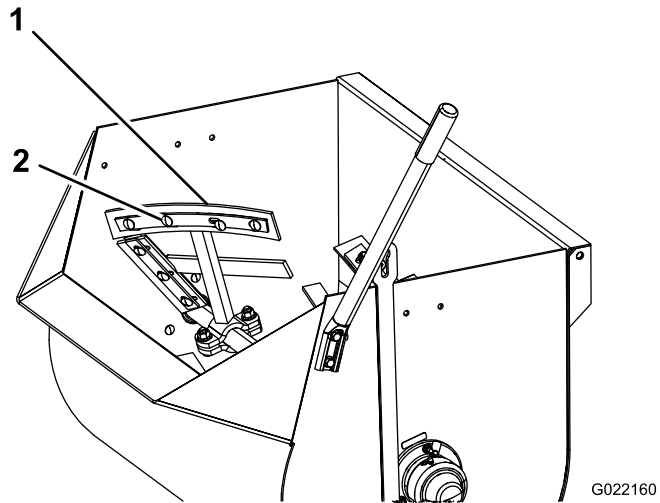
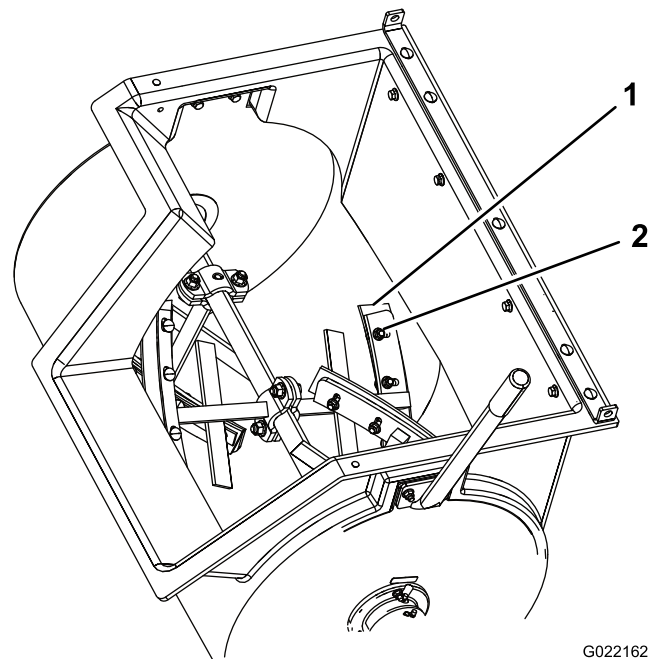
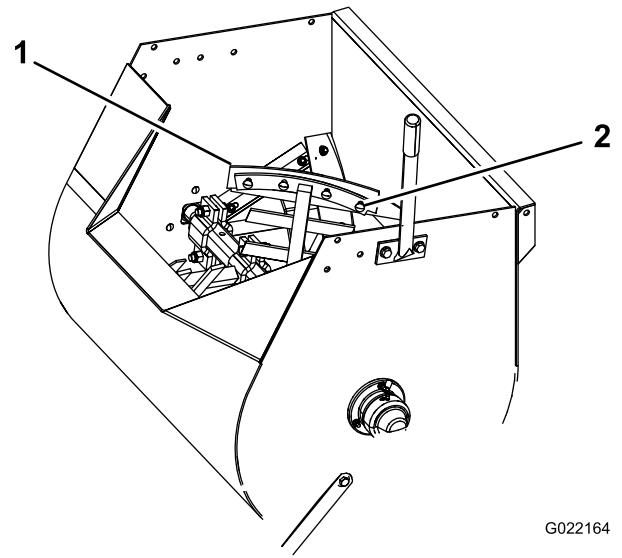

Figure 43
Figure 44
Figure 45
- Loosen the nuts and bolts that secure the paddle blades to the paddles (Figure 43, Figure 44, or Figure 45).